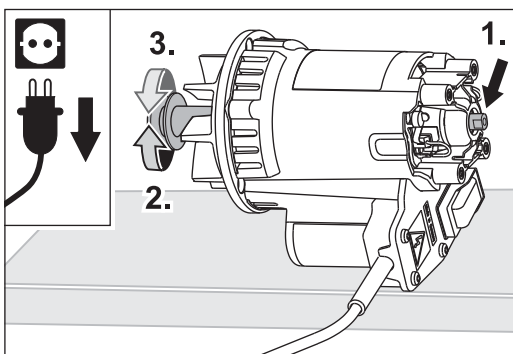

Fig. 46 Hold the end of the motor shaft with a spanner (1.) and unscrew the motor pulley from the shaft (2.). Screw on the new motor pulley (3.).
- 6 Hold one end of the motor shaft tightly with an SW 10 spanner (Fig 46, 1.) and use a pair of pliers to unscrew the motor pulley from the motor shaft (Fig 46, 2.).
- 9 Turn the new motor pulley onto the motor shaft (Fig. 46, 3.).